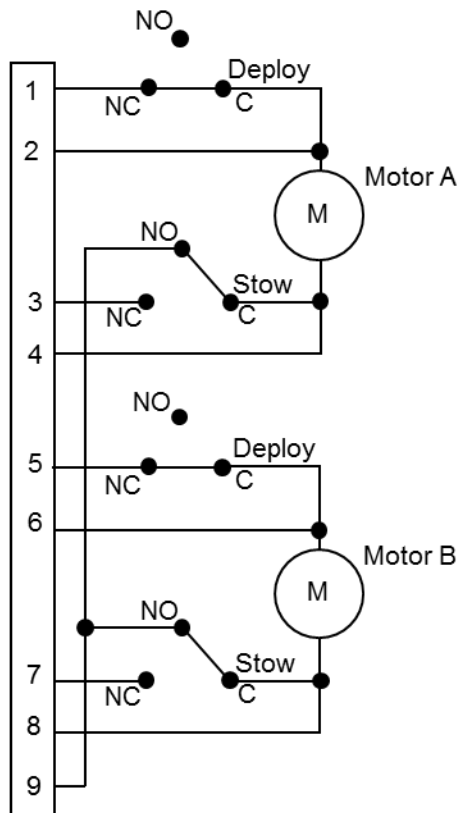

Figure 27: Switch state after Lightband has been set-for-flight.
8.1.13	Figure 27 shows the state of the switches in the Motor Bracket Assembly after the Lightband has been set-for-flight. Measure resistance directly at the Lightband's DB-9 socket connector by completing Table 4. See Figure 44. Contact PSC if a discrepancy is found.